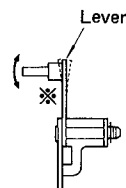

Fig. 5
2. If specifications cannot be satisfied for both the PLAY and SCAN states, make fine adjustments by bending the lever shown in Fig. 5 at the point marked※.